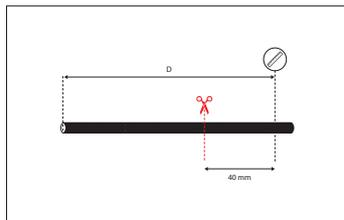

Abb. 27: Shortening the threaded rod
2. Shorten the threaded rod of the coupling rod. The length of the threaded rod must be 40 mm less than the distance measured in point 1 (Fig. 27).